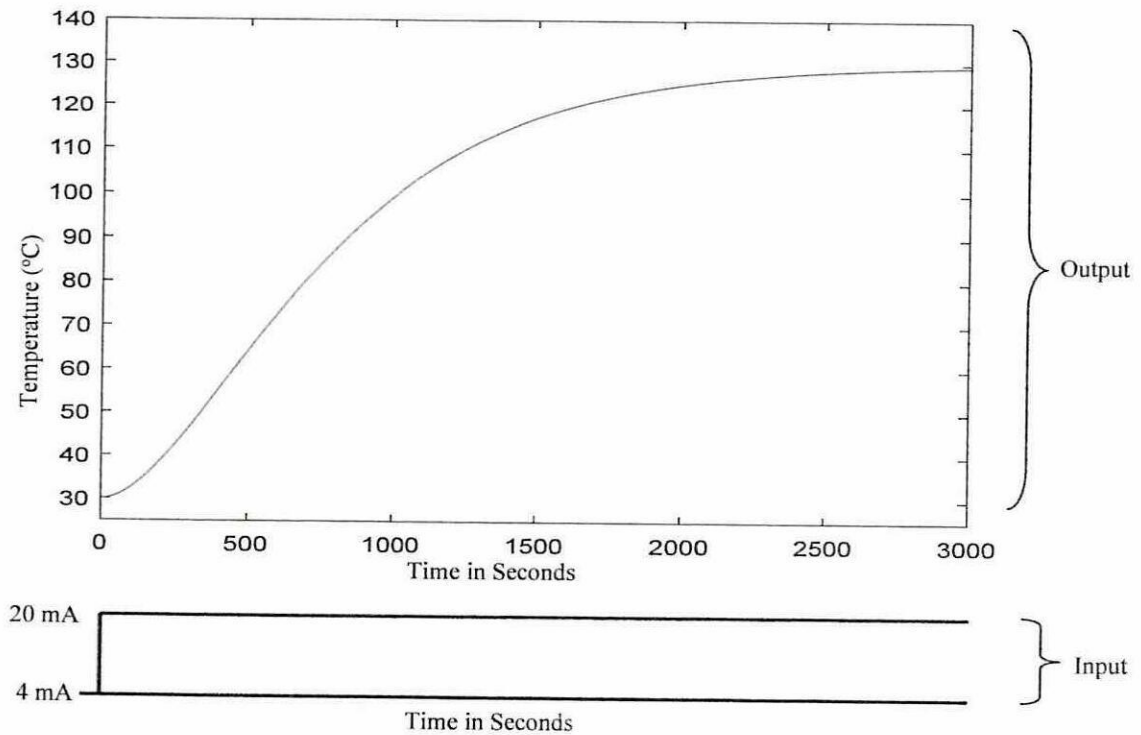

Figure Q3.1: Herb drying input and output experimental data.
- (b) The plot of input and output open loop experimental data for herb drying systems is shown in **Figure Q3.1**.